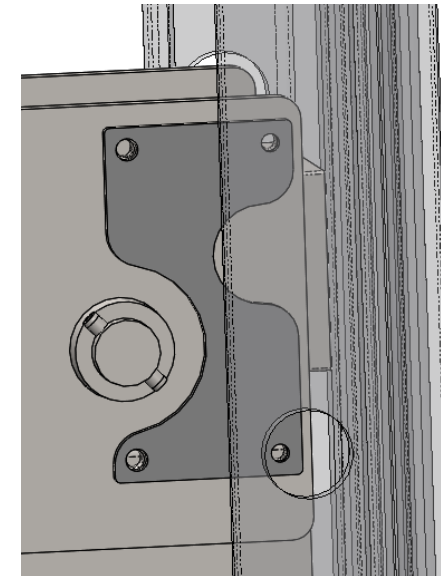

Figure 7
16. Fasten the drilling template to the rear plate of the front support side cross-beam as shown in *Figure 7* using the (2) $\frac{1}{4}$ " tapped holes furthest away from the post.